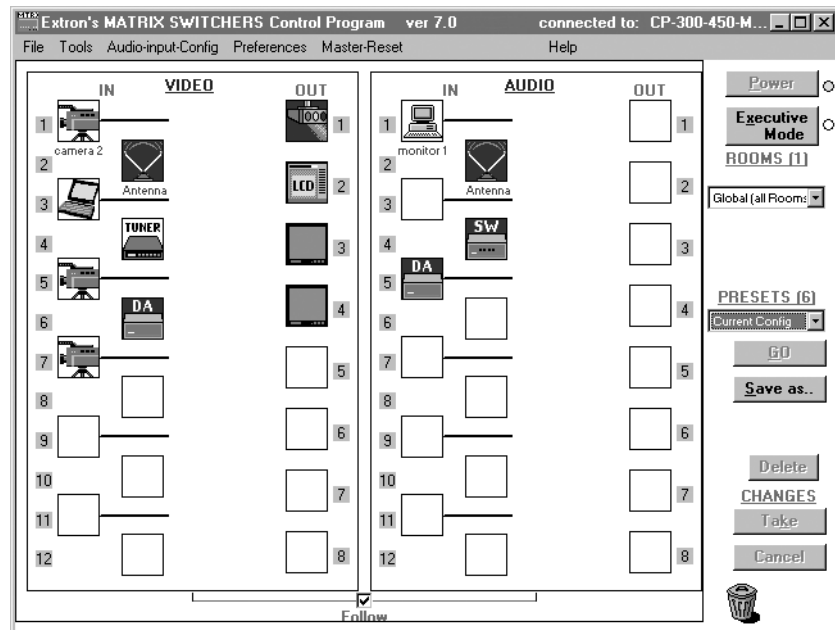
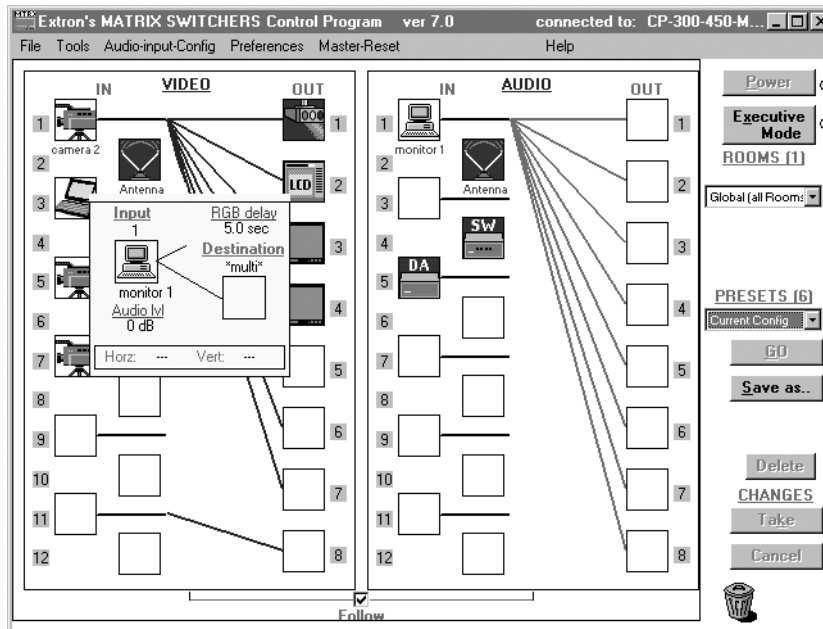

Figure 5-5 — Extron Matrix Switchers Control Program window (no ties)
Figure 5-6 — Sample program window (complete)
4. The Extron Matrix Switchers Control Program window (figure 5-5 and figure 5-6) appears. The window displays the current configuration of the attached matrix.
- For quick display of information on a specific input or output device, position the cursor over that device in the control program window. The program opens a window that details the connections to that device, the audio level, the RGB delay, and the frequency of the video signal input from or output to that device. See the inset box in figure 5-6.